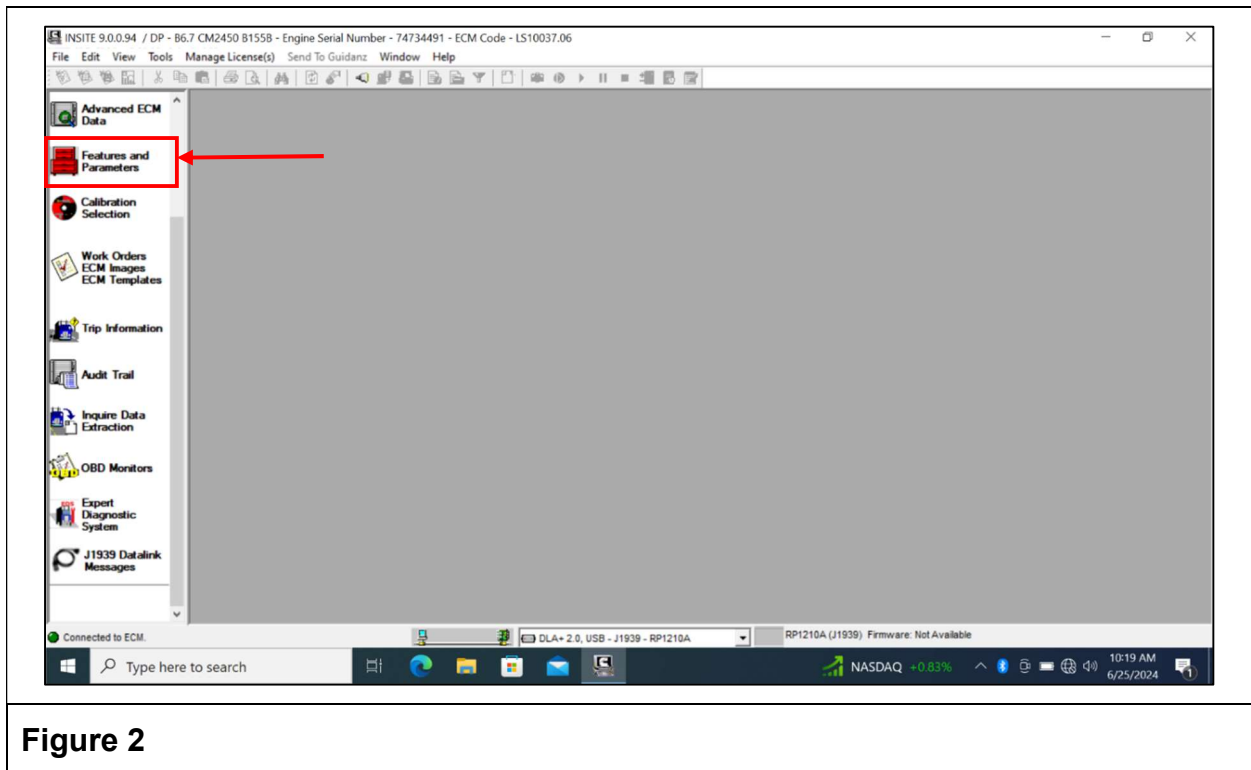

Figure 2
4. Select **Features and Parameters**. (See Figure 2.)